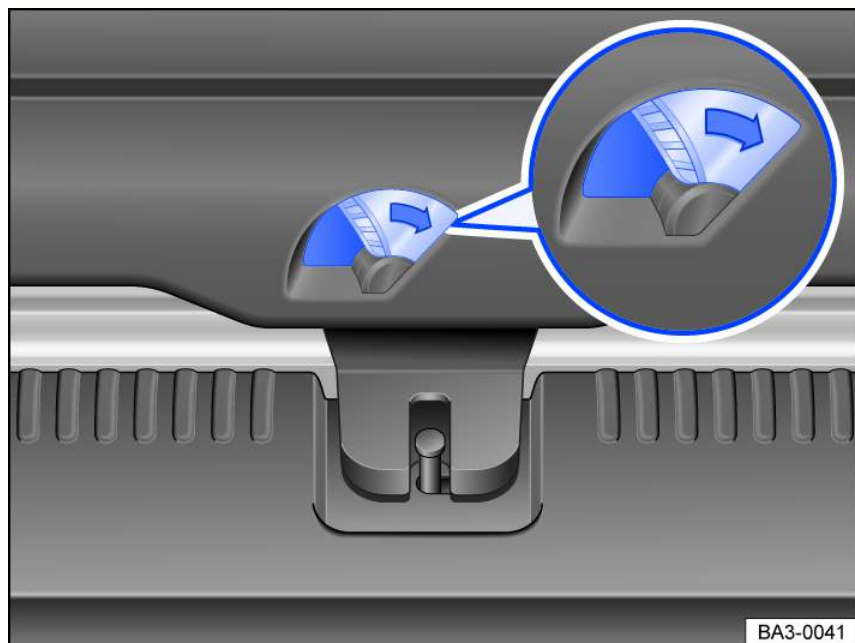

Fig. 53 In the luggage compartment: unlocking the trunk lid.
3. Push the lever fig. 53 in the direction of the arrow and open the trunk lid.